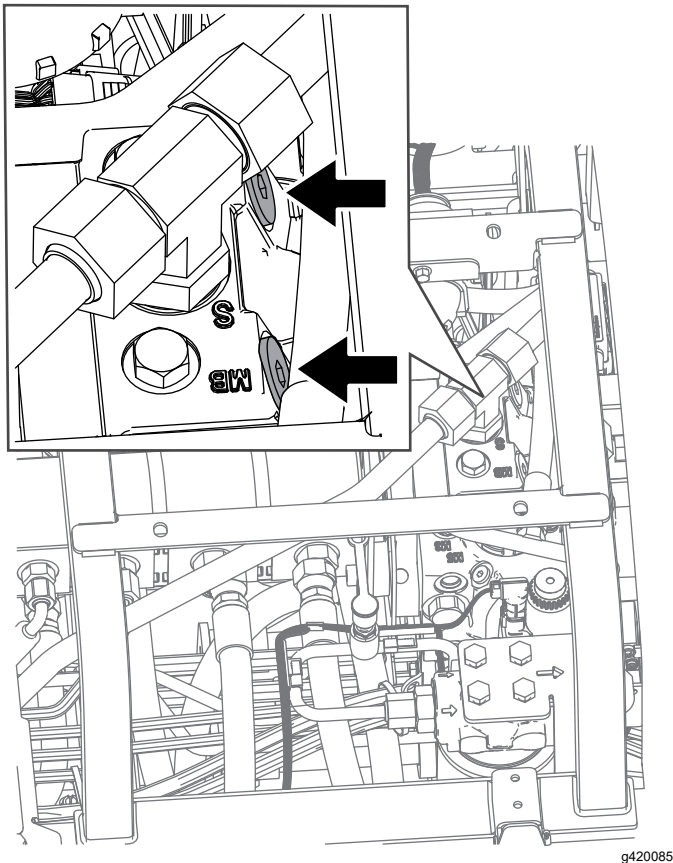

Figure 67
2. Locate the bypass valve under the seat and on the top of the hydrostat (Figure 67).